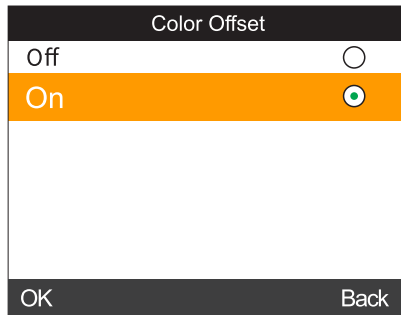
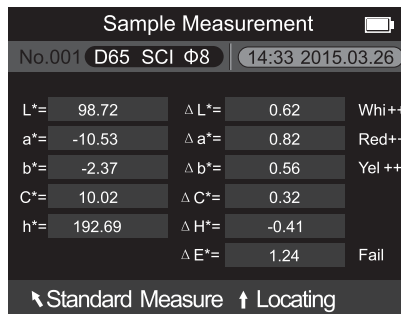

Figure 40 Color Offset Setting Interface
Figure 41 Color Offset Display
- a) Select “Settings” - “Color Offset” to enter an interface shown in Figure 40. You can set whether to display the color offset or not through this interface. Select “Open”, the corresponding color offset will display on the right of the measurement interface, as shown in Figure 41.